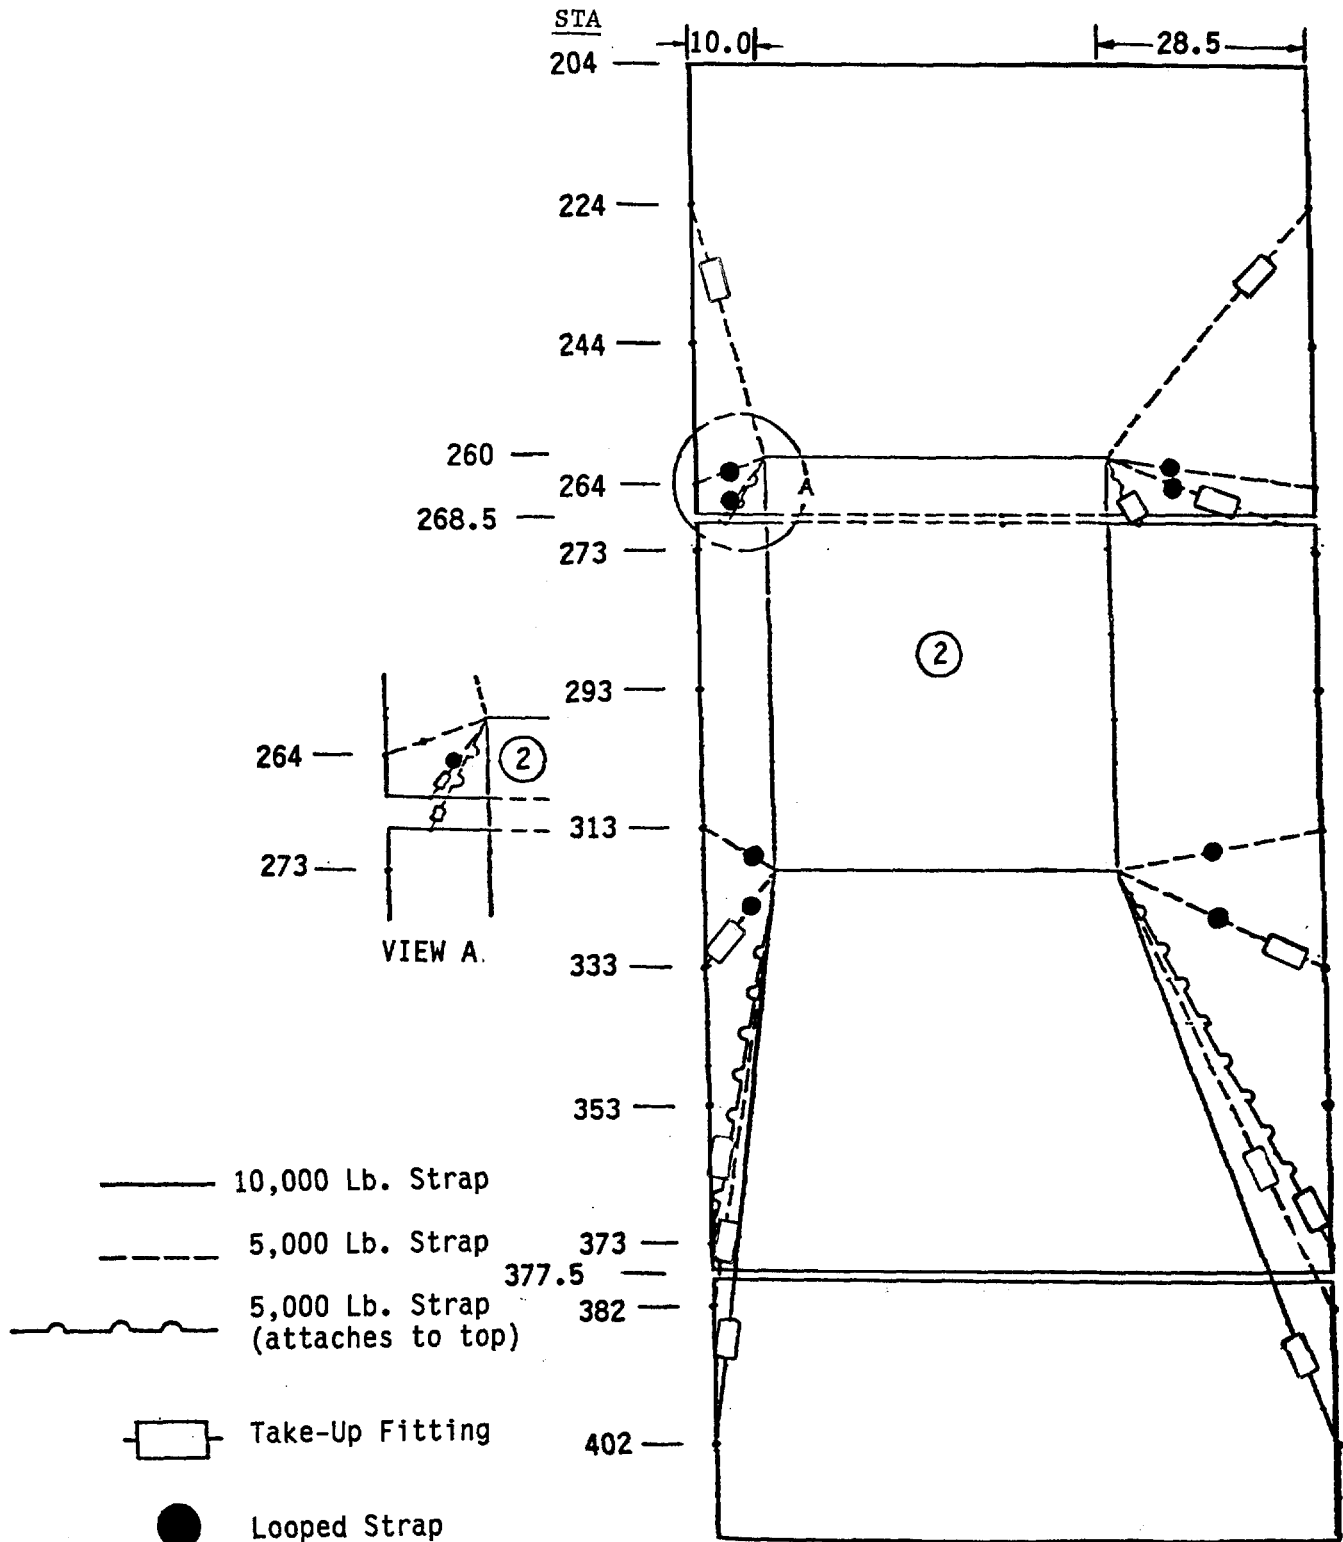

Figure 2-18. Two Tanks with Pallets
- Two tanks w/pallets, Fig 2-18